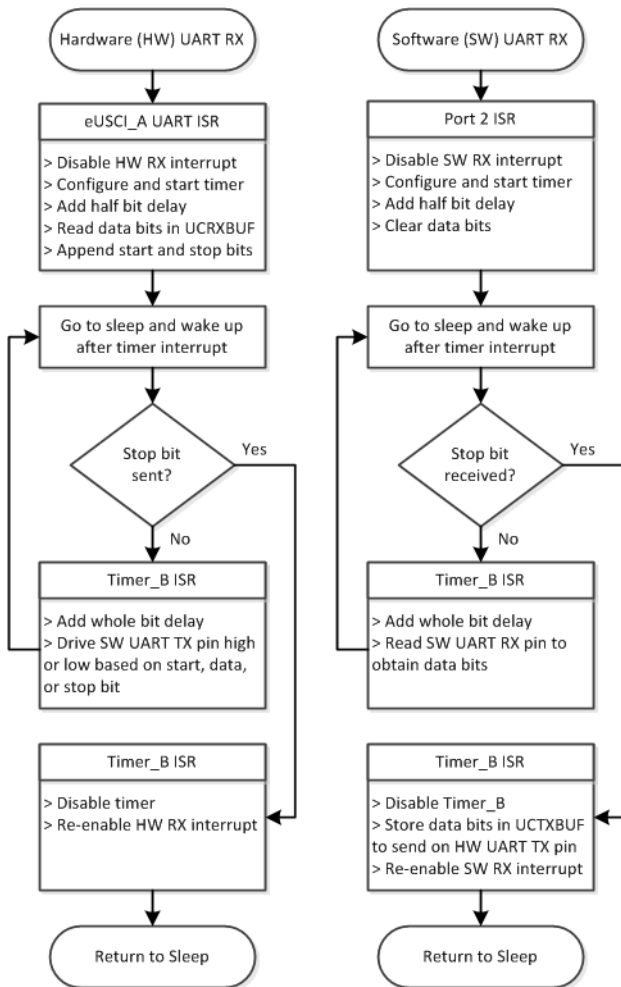

Figure 2. Hardware and Software UART RX and TX Code Flow
**Figure 2** shows the flowchart for the hardware and software UART code.